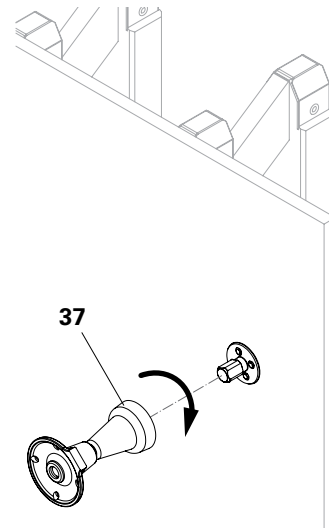

Fig. A2.17
3. Screw on and tighten the pre-assembled Leading Anchor on the Anchor Positioning Stud M24 (**15**). (Fig. A2.17 + A2.18)